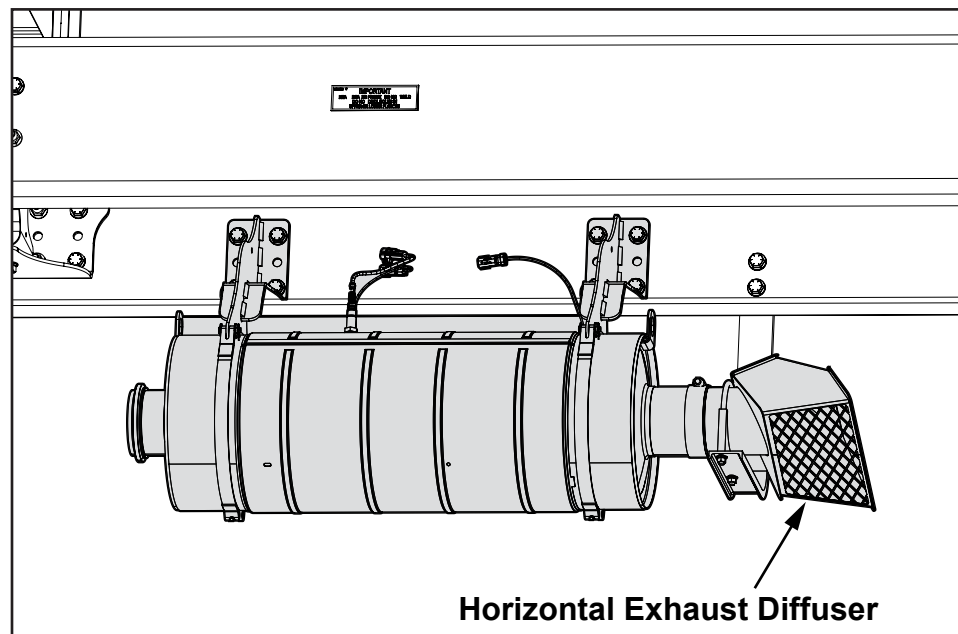

Figure 1
3. Locate the horizontal exhaust diffuser located underneath the frame rails (see *Figure 1*).